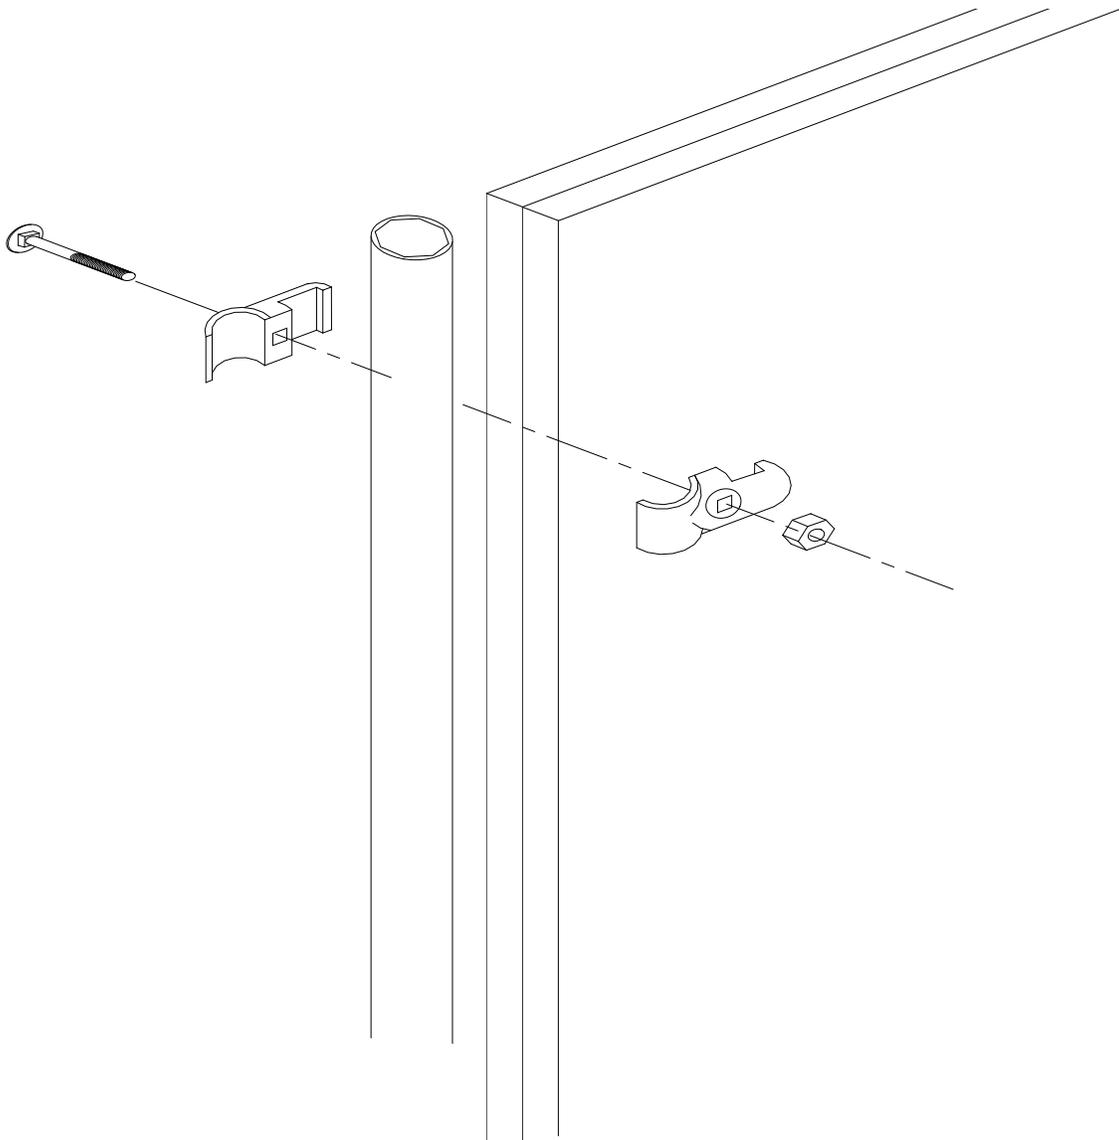

Figure 11.
1. Attach the filler pipes to the front end of each division panel with two square-round clamps (it takes two halves to make up one clamp) approximately 6" from either end of the filler pipe using the 5/16" x 1-3/4" carriage bolts and 5/16" nuts provided as shown in Figure 11.